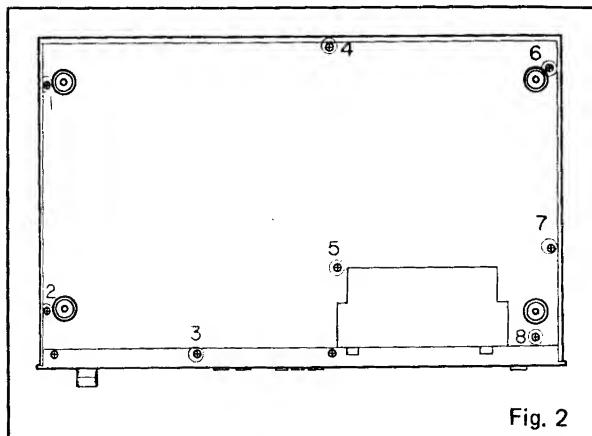

Fig. 2
Remove screws ① ~ ⑧ shown in fig 2, and remove the bottom cover.